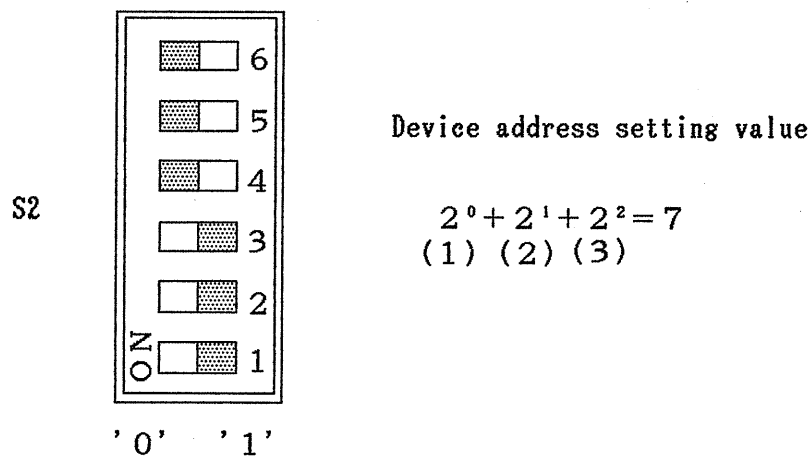

Fig. 8-1
- c) Figure 8-1 shows how S2 is set for address "07".